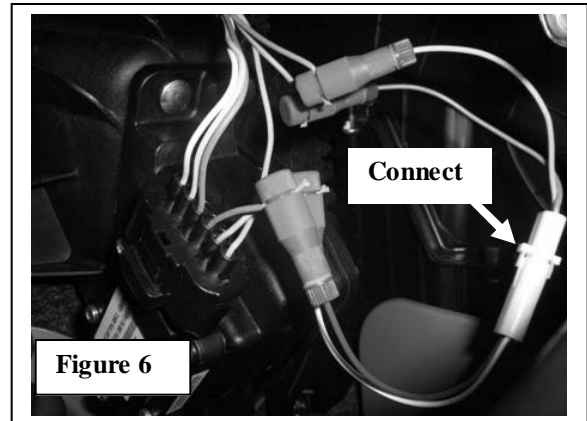

Figure 6
2. Before continuing cruise installation, plug in the mating 2-pin connectors from the Posi-tap connections. Doing this will ensure proper wiring connections on the accelerator harness. Reconnect negative side of battery. Start engine and press accelerator to confirm operation. Turn off engine and Disconnect battery. **Figure 6**